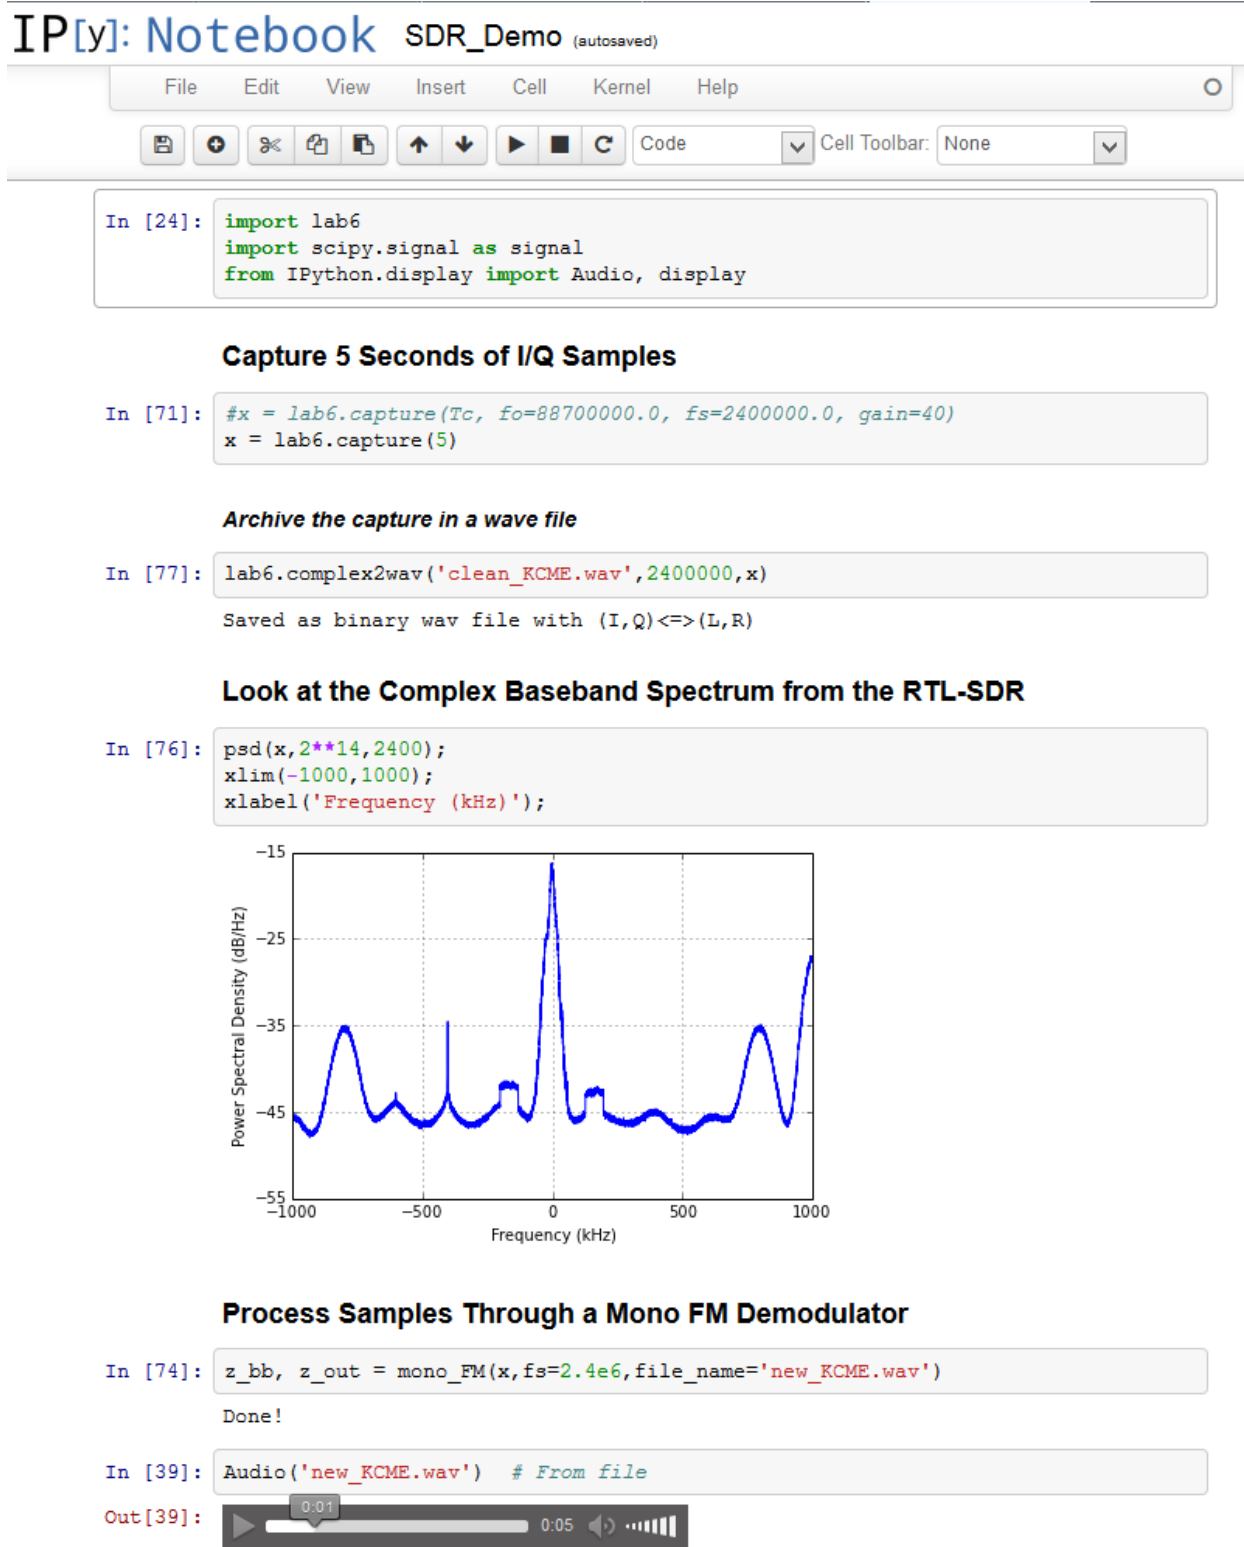

Figure 28: Using the IPython notebook to document your work in Python.
2.0, GUI widgets are also available. Of particular note is the Audio widget, which lets you play sounds through your computer's audio system. In Figure 28 I show an example of the notebook as it relates to the RTL-SDR. A sample notebook is included in the Lab6 Python ZIP package.